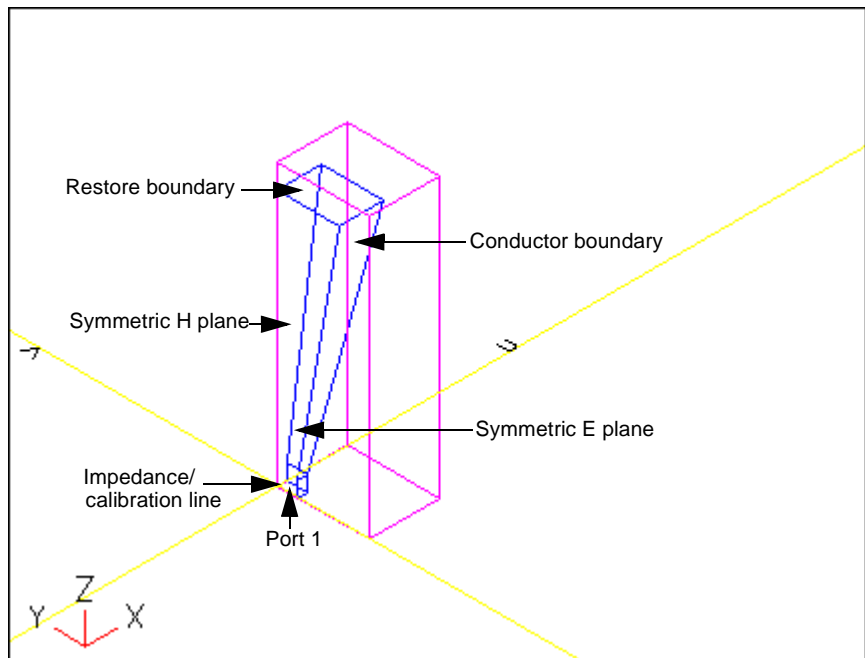

Figure 42 Boundary Locations for the Horn Antenna Example
Refer to Figure 42 to see the location of the various ports and boundaries for the sliced (one-quarter of the actual structure) horn antenna.
- 7 Place the pointer on a vertex point of the port of the horn antenna and click it. Refer to Figure 42 on page 104 for the location of the port. A small x is drawn on the vertex point to indicate it is selected.
- 4 Place the pointer on a vertex point of the horn in the ZX plane, and click it. Refer to Figure 42 on page 104 for the location of the magnetic symmetry plane. A small x is drawn on the vertex point to indicate it is selected.
- 10 Place the pointer near a vertex point of the horn in the YZ plane, and click it. Refer to Figure 42 on page 104 for the location of the electric symmetry plane. A small **x** is drawn on the vertex point to indicate that it is selected.
- 4 Place the pointer near a vertex point of the aperture of the horn antenna and click it. Refer to Figure 42 on page 104 for the location of the aperture. A small x is drawn on the vertex point to indicate it is selected.
Refer to Figure 42 on page 104 for the location of the port, and the impedance and calibration line on the horn antenna example.
Refer to Figure 42 on page 104—that the impedance and calibration line should start at the corner of the port along the magnetic symmetry plane, and end at the corner where the magnetic and the electric symmetry planes meet.
- 8 Click **Apply**, and then click **Done**. The calibration and impedance line should look like the one in Figure 42 on page 104, and the problem is ready to solve.